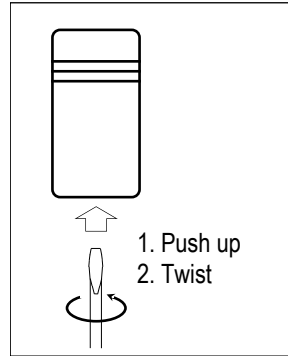

Fig. 2. Open the case
- 1. Remove the cover.** Remove the transmitter cover by inserting a small screwdriver into the slot at the bottom and twisting while applying upward pressure. See Fig. 2 on page 2.